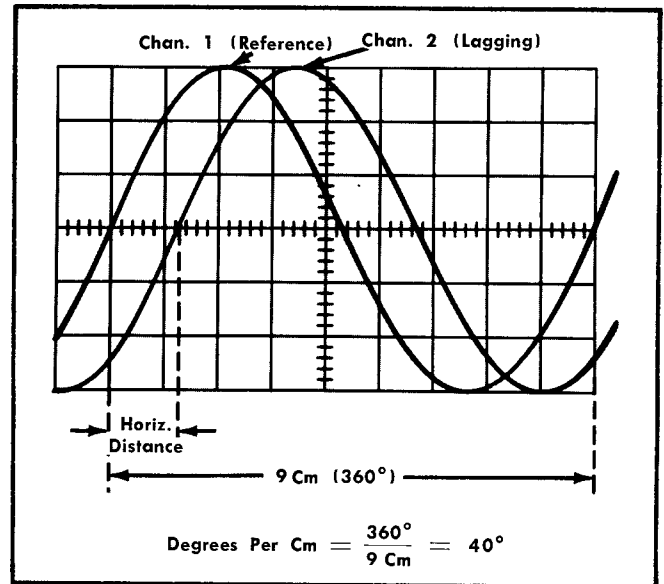

Fig. 3-4. Measuring phase shift between electrical waveforms.
9 cm horizontally. Use the Trigger Slope and Triggering Level controls to trigger on the reference waveform at any point you desire. Each cm on the graticule now represents 40° of 1 cycle (see Fig. 3-4).
6. Measure the horizontal distance, in cm, between corresponding points on the waveforms. Note the distance and whether the Channel 2 waveform is leading or lagging (see Fig. 3-4).